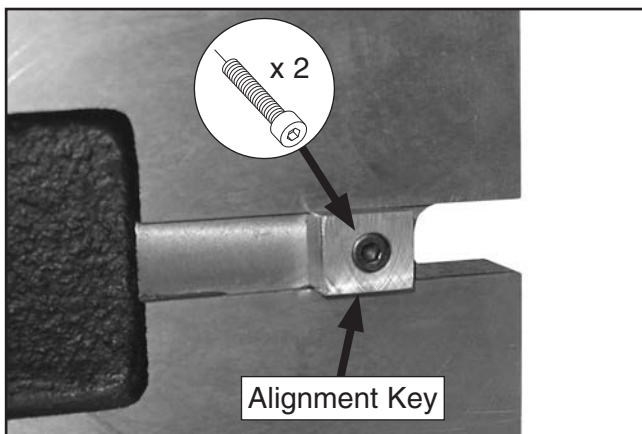

Figure 4. Alignment key installed.
2. Install the alignment keys into the base of the dividing head, as shown in **Figure 4**.